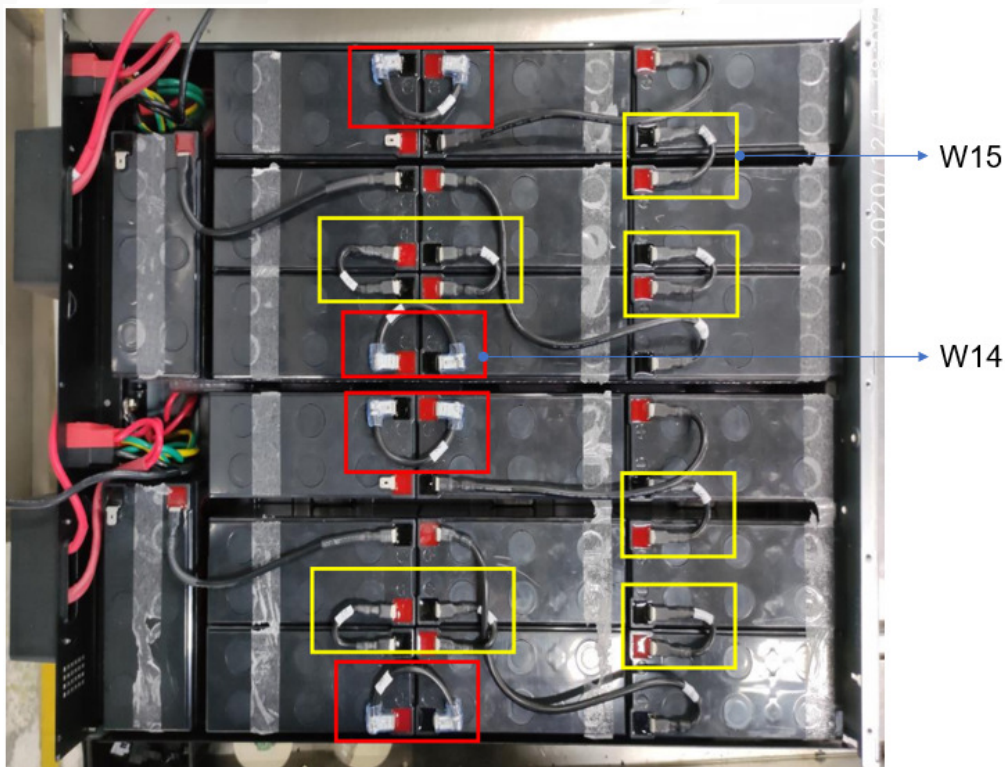

Fig 2-4
2.4). Connect the black battery wire14*4pcs and wire15*8pcs refer to Fig 2-4: